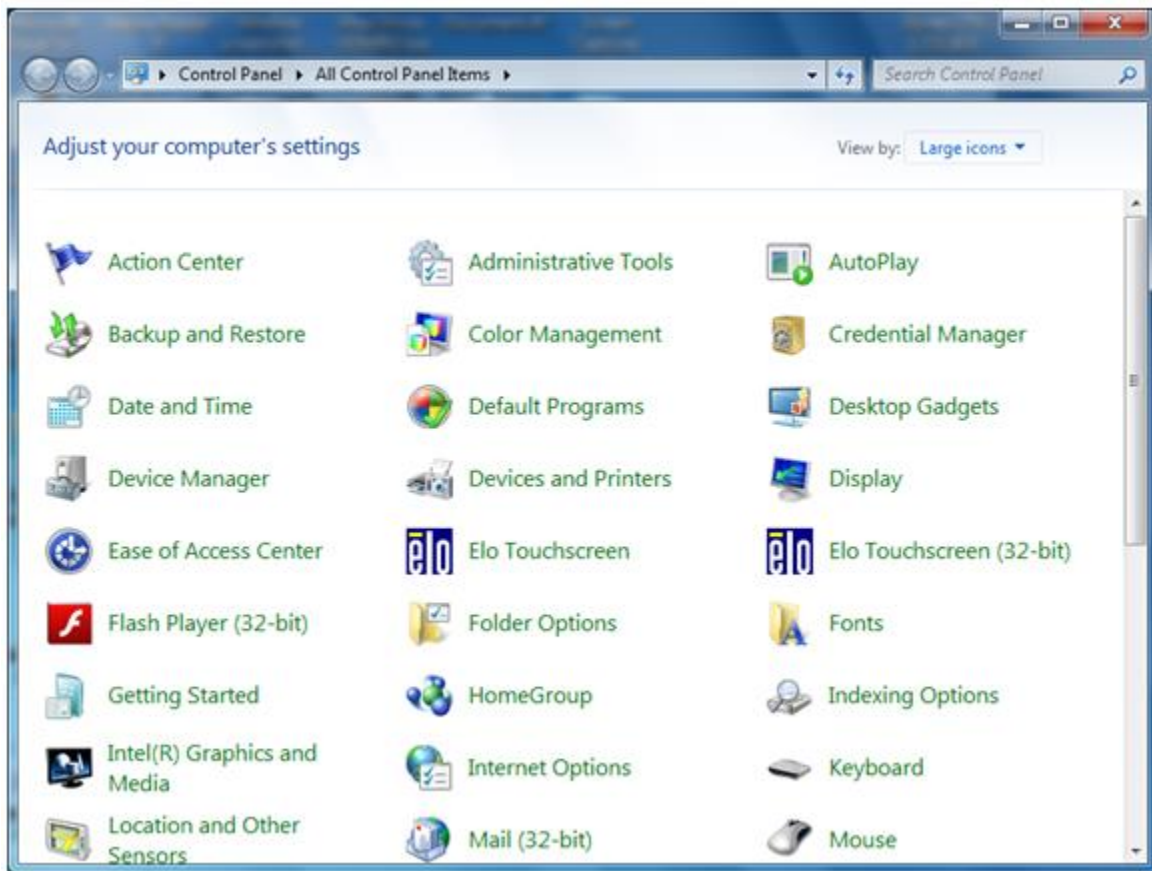

Figure W-3: Control Panel
1. Select *Windows Control* from the *Start* menu, and select *Devices and Printers*. The touchscreen will present an icon for each device connected to the system (Figure W-3).